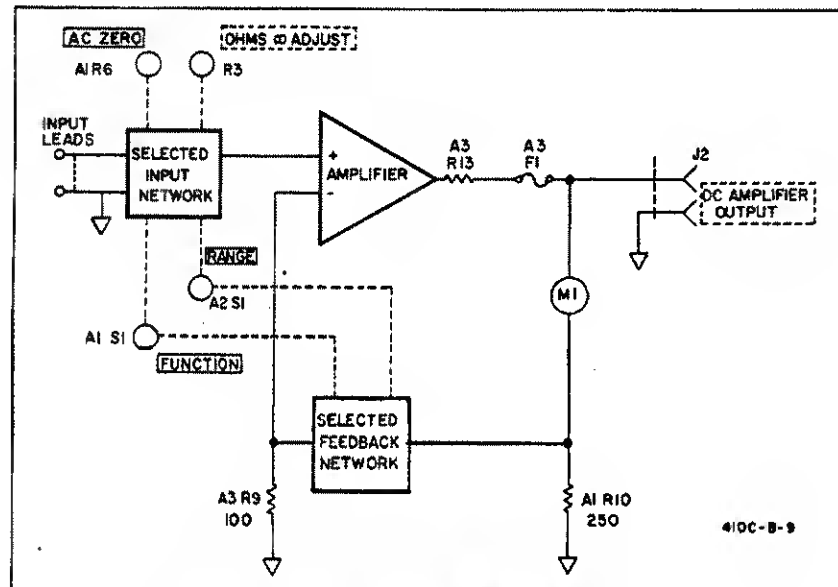

Figure 4-1. Block Diagram, Model 410C.
4.1. GENERAL DESCRIPTION (FIGURE 4-1).
4-2. The -hp- Model 410C Analog Voltmeter is comprised of four basic blocks: (1) the Input Switching and Attenuator Network, (2) a FET Input Amplifier, (3) Meter and Feedback circuit, and (4) the Power Supply. Figure 4-1 is a basic block diagram of the Model 410C.
4-8. The amplifier in the Model 410C consists of a FET differential pair (Q1) and a low drift op amp (U1). The FET input circuit ensures that the input impedance of the amplifier is approximately 10^{12} ohms. The amplifier operates in the non-inverting mode with the feedback network (connected to inverting input) setting the gain of the amplifier (see Figure 4-1). The output of the amplifier drives meter M1 and is also applied to the DC AMPLIFIER OUTPUT connector (J2) located on the instrument's back panel.